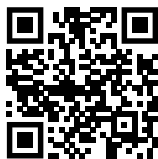

Fig. 101
► Open Liebherr SmartMonitoring Dashboard. (see Fig. 101)